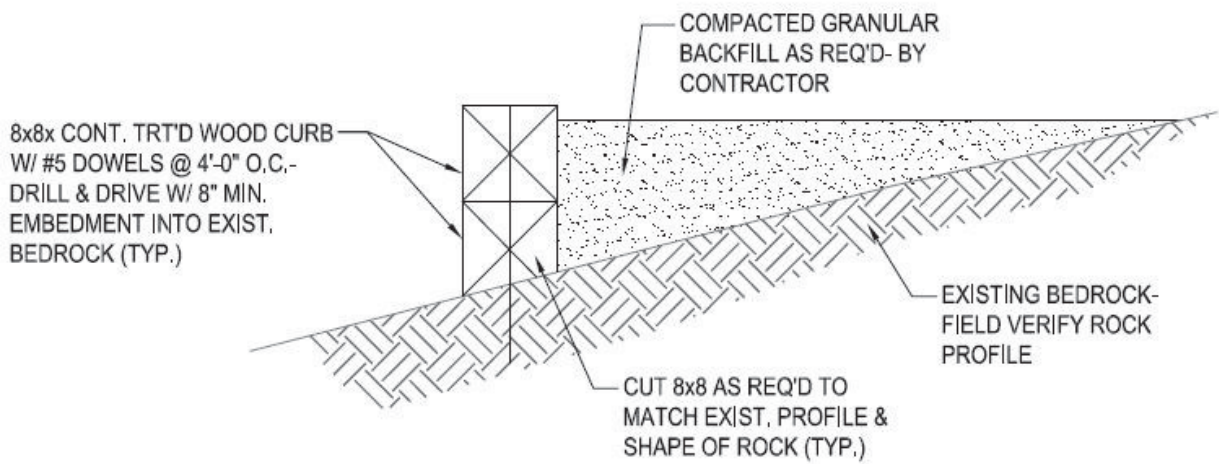

Figure 18: Wood Crib Wall (NTS)
4.20 Wood Crib Wall Retaining Wall (figure 18)
In this application the Wood Crib Wall or Wood Retaining Wall is to be anchored to exposed smooth unfractured bedrock. Any fractured stone is to be chipped away until a smooth clean surface is exposed. The bottom timber shall be cut to meet the contour of the bedrock. The stacked timbers are to be anchored to the bedrock with steel rods and epoxy suitable for rock to wood exteriors must be used. See (figure 18) for specific construction details.